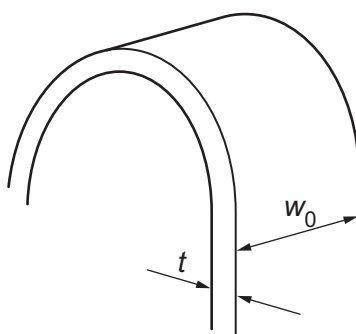

Fig. 2.2
- (b) The width of the unstretched rubber band is w_0 and its thickness is t , as shown in Fig. 2.2.